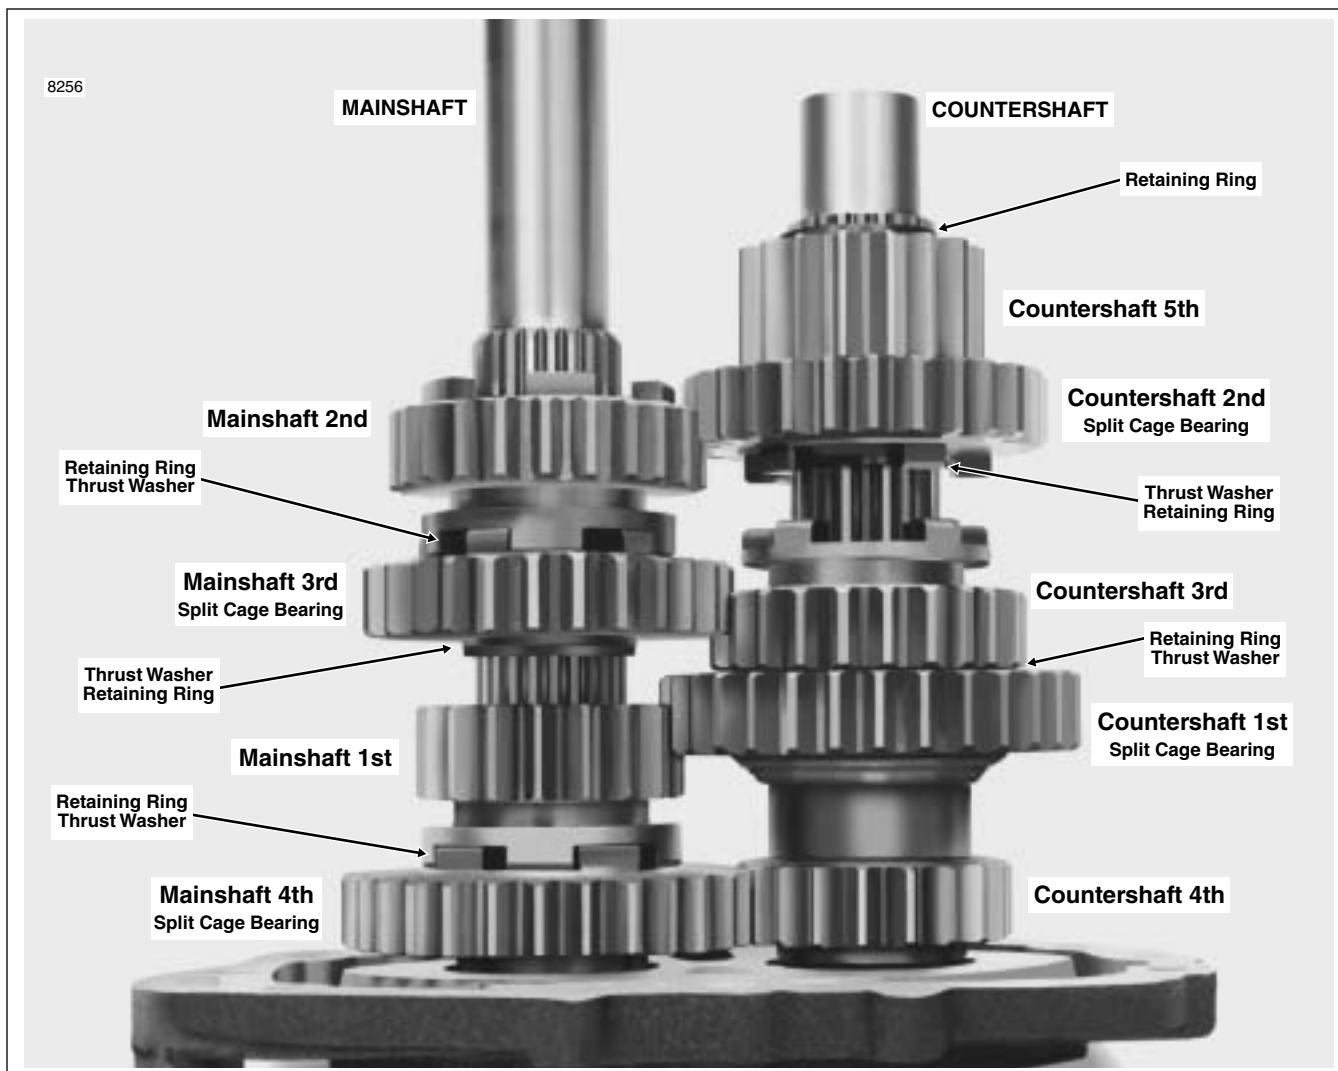

Figure 7-24. Completed Side Door Assembly
8. See Figure 7-24. Install countershaft 3rd gear with the shifter fork groove facing opposite the side door.
The final assembly appears as shown in Figure 7-24.